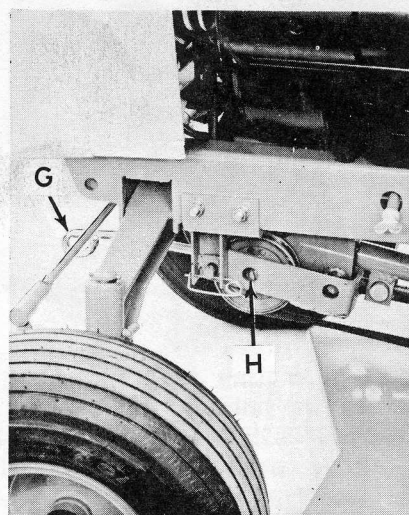

Figure 6. Drive Belt Adjustment
5. Check the mower drive belt tension after the initial 20 minutes operation. Check tension again after the next hour and five hours of mowing. The belt is properly tensioned when the left hand idler pulley mounting bolt lines up with the inspection hole, Reference "H", Figure 6.
To increase the belt tension, turn the adjusting crank, Reference "G", Figure 6, in a counterclockwise direction while facing the front of the tractor. To decrease tension, turn the crank clockwise.